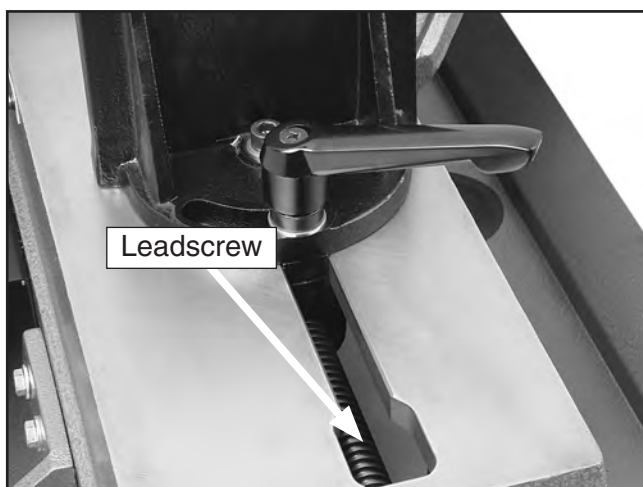

Figure 34. Vise leadscrew lubrication area.
- **Vise Leadscrew:** Place a few drops of light machine oil on the vise leadscrew weekly (see **Figure 34**).